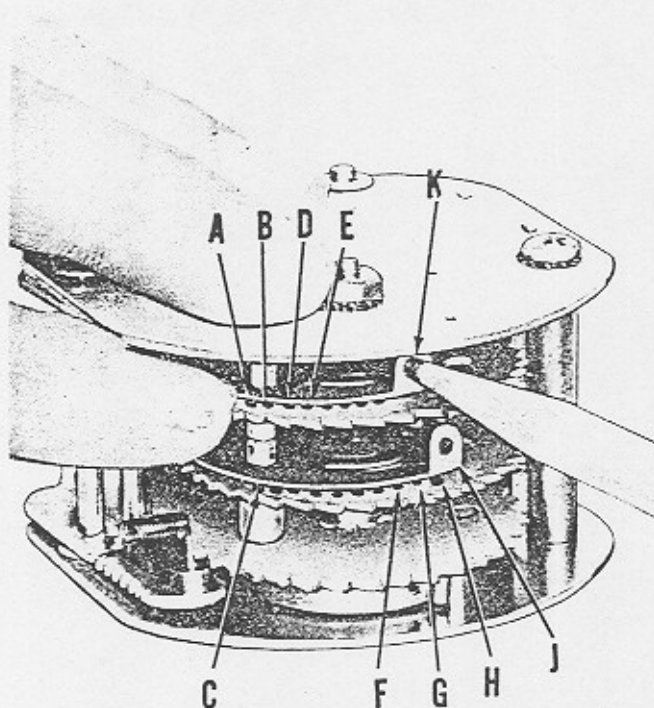

FIG. 5—View of Accumulator
- A. The upper ratchet on the accumulator, is the "quarter ratchet". If 4 plays for a quarter are desired, insert a pointed tool into the ear of the wafer (K-Fig. 5) on the upper ratchet, and lift slightly raising the wafer pin from the 3 play hold (A-Fig. 5). Keep the ratchet wheel from rotating and move the wafer until the pin drops into the 4 play hole (B-Fig. 5).
- B. The center ratchet is the "half-dollar ratchet". Insert a pointed tool into the ear of the wafer (J-Fig. 5) on the center ratchet, and lift slightly raising the pin from the 7 play hole. Keep the ratchet from rotating and move the wafer until the pin drops into the 8 play hole (F-Fig. 5), or the 9 or 10 play holes (G,H-Fig. 5).
- E. Insert a pointed tool into the ear of the wafer on the center ratchet and lift slightly. Keep the ratchet from moving, and move the wafer until the pin drops into the 2 play hole (C-Fig. 5). In the same manner, move the wafer pin on the upper ratchet to the 5 (or 6) play hole (D, E-Fig. 5).